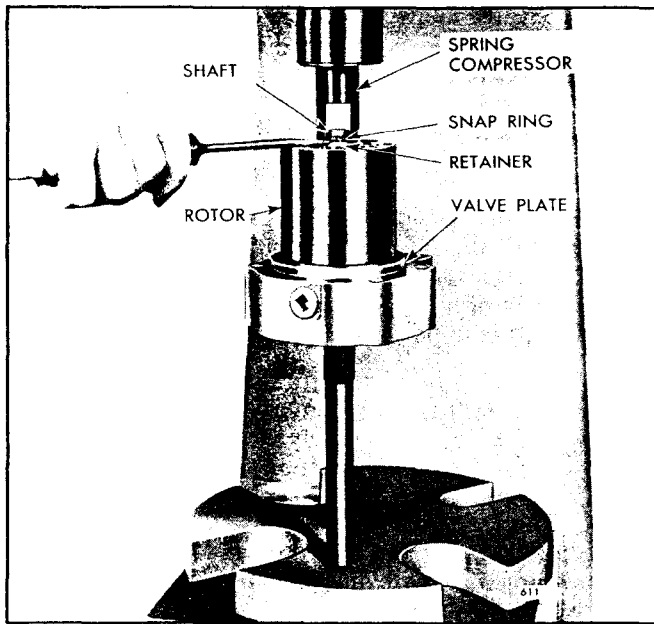

Fig. 5 - Removing Snap Ring from Starter Shaft
11. Locate the shaft in an arbor press and, using spring compressor J 7187, press on the edge of the retainer to compress the spring as shown in Fig. 5. Then remove the snap ring.
4. With the assembly in an arbor press and using spring compressor J 7187 as shown in Fig. 5, install the snap ring in the shaft ring groove.